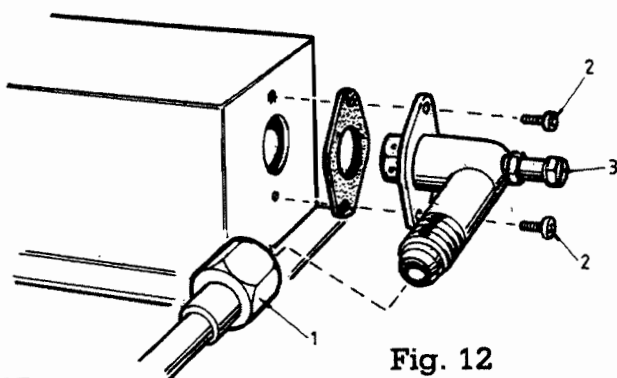

Fig. 12
- (iv) Disconnect the burner feed pipe from the valve top (1).
- (v) Remove the wiring tags (3) noting their positions.
- (ix) Remove the sensing pipes by unscrewing the fixing nuts (2).
- (xi) Remove the burner pressure test point and fit a manometer. Fig 12 (3).
- (xii) Remove gas valve governor cap (5) and screw governor fully in. Replace governor cap to seal.
- (xiii) Follow the commissioning procedure (sect. 9 (a) to (h) ) — once the amber neon illuminates set the burner pressure as on the data badge. The burner pressure is adjusted by turning the offset screw anticlockwise to increase. (4)
## 2.3 Injector Fig. 12